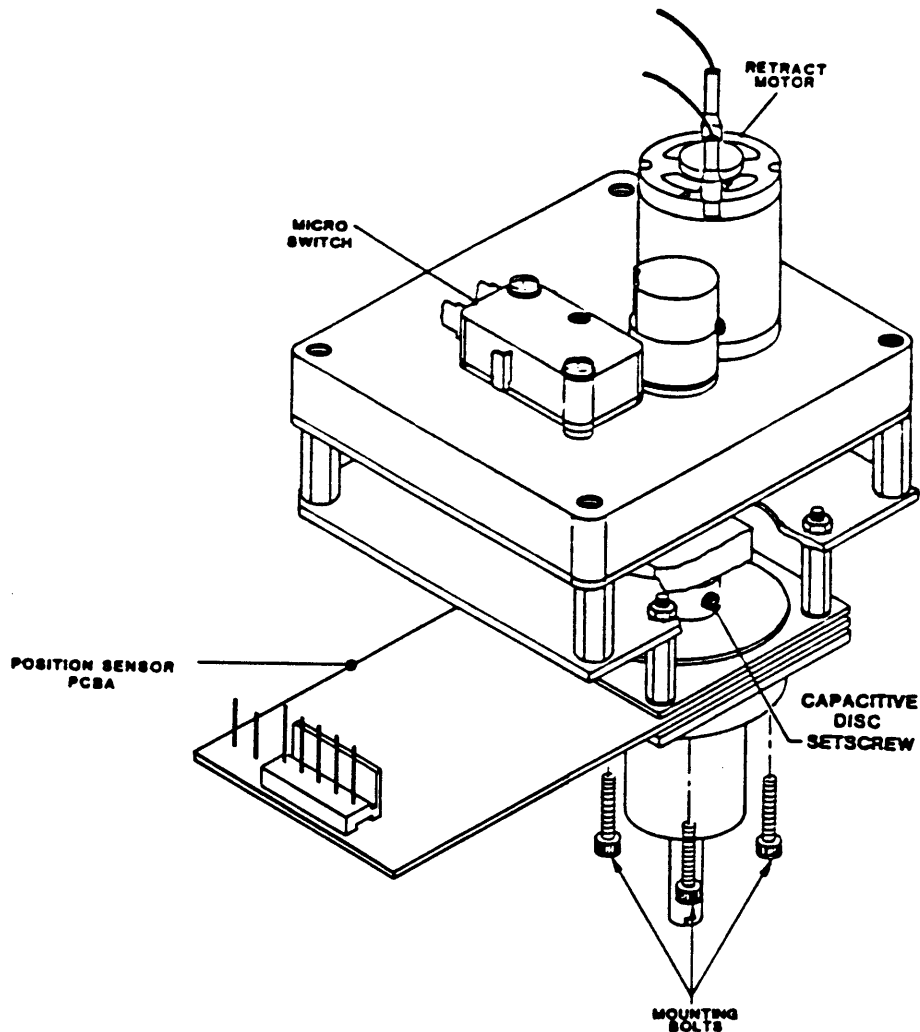

Figure 4-8 Takeup Arm Retract and Pivot Sensor Assembly
4.3.8 TAKEUP-ARM RETRACT AND PIVOT SENSOR ASSEMBLY (Fig. 4-8)
4.3.20 RETRACT AND PIVOT SENSOR (TAKEUP) (Fig. 4-8)